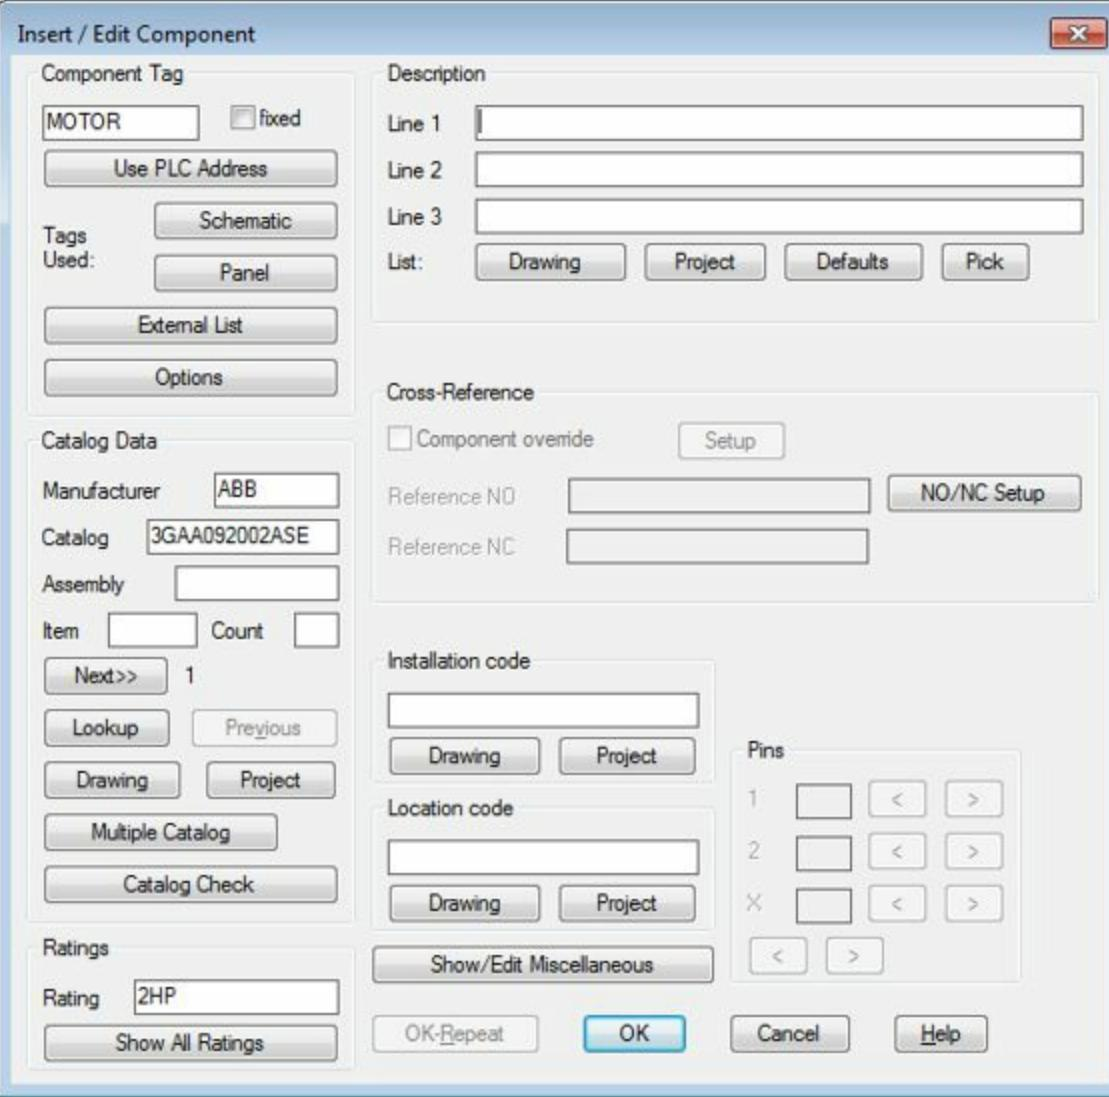

Figure-5. Insert or Edit Component dialog box
- Select the component. The **Insert/Edit Component** dialog box will be displayed; refer to Figure-5. The options in this dialog box have already been discussed.